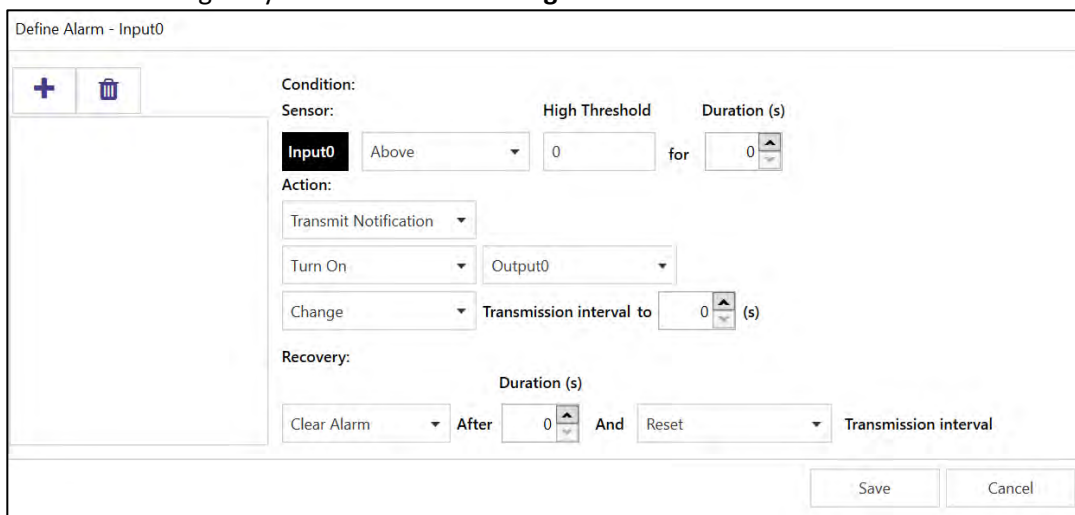

Figure 16
Step 2: Customize alarm settings to your satisfaction. See **Figure 16**.